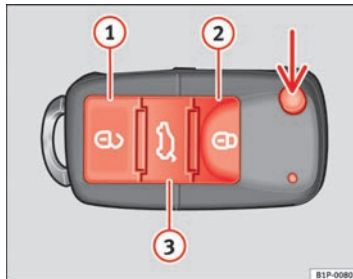

Fig. 64 Assignment of buttons on the remote control key
Using the button \Rightarrow Fig. 64 (arrow) on the control, the key blade is released.
Unlocking the vehicle \Rightarrow Fig. 64 ①.
Locking the vehicle \Rightarrow Fig. 64 ②.
Unlocking the rear lid. Press button \Rightarrow Fig. 64 ③ until all the turn signals on the vehicle flash briefly. When the unlocking button \Rightarrow Fig. 64 ③ is pressed, you have 2 minutes to open the door. Once this time has passed, it will lock again.
Also, the battery indicator on the key \Rightarrow Fig. 64, will flash.
When the button \Rightarrow Fig. 64 ①, is pressed once, the driver door is unlocked, all others remain locked.
Press the button \Rightarrow Fig. 64 ① twice to unlock all doors. ▶
- Press the  → Fig. 64 button on the remote control.